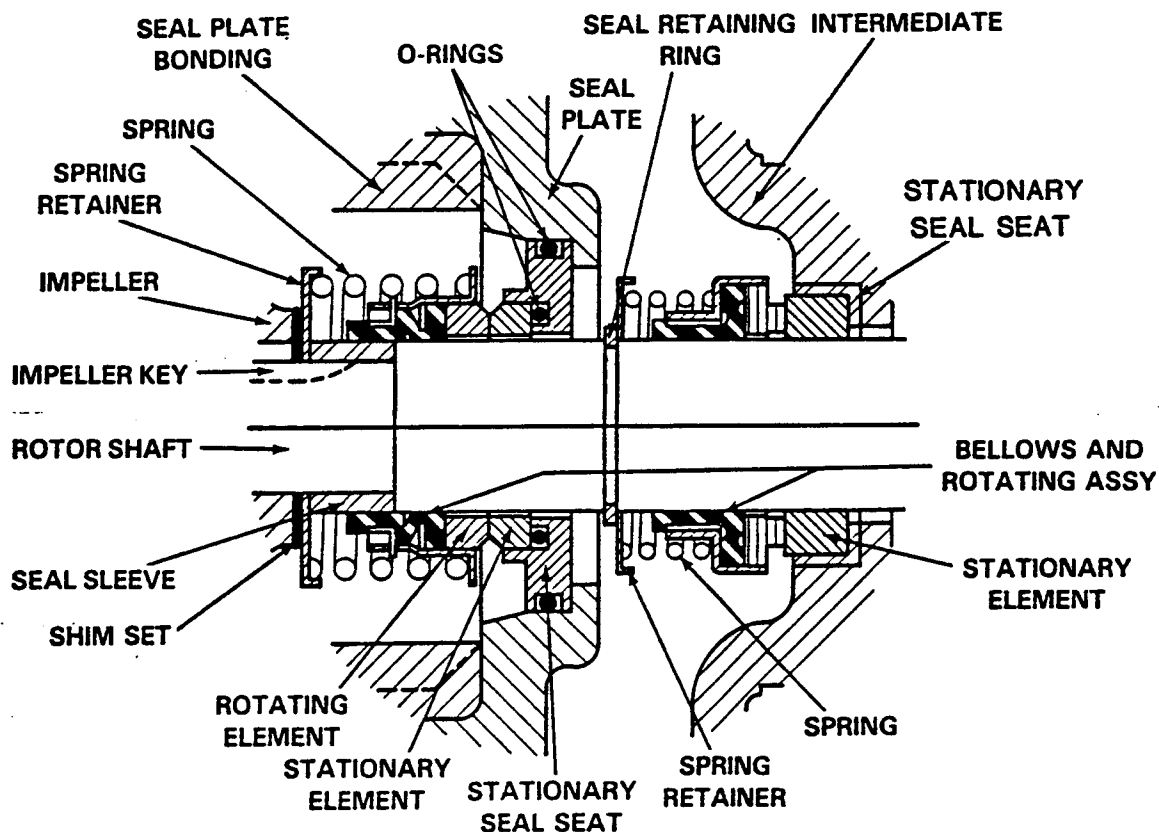

Figure 2. Seal Assemblies 25277-345 and S01832
Install the shaft seals as illustrated in Figure 2.
Slide the seal spring over the shaft and bellows retainer, and install the spring retainer. Compress the spring and install the seal retaining ring (9). See Figure 2 for proper order of seal assembly.
Unpack the stationary seat, and check that the O-rings are properly installed (see Figure 2). Apply a light coating of oil to the outer O-ring.